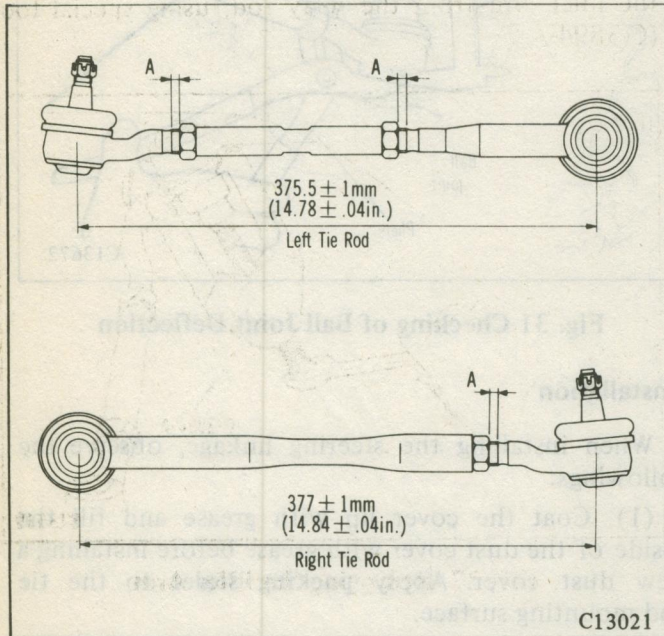

Fig. 33 Dimensions of Tie Rod and Tie Rod Ends Assembled
- (2) Temporarily tighten so that the standard amount of distance is provided between the stud bolts at both ends of the tie rod ends. (Fig. 33)